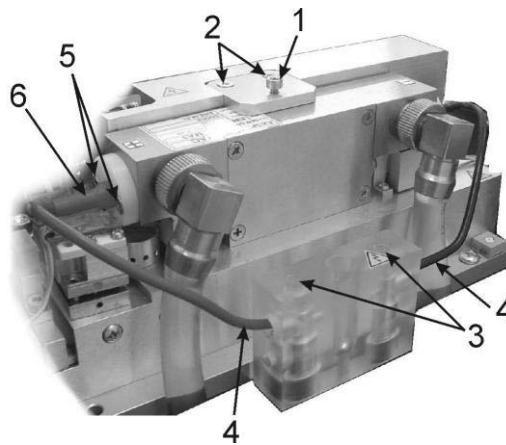

Fig.10 Pump chamber of master oscillator
4. Release the screw (1), unscrew (2) and remove the fixing plate (see Fig.10).